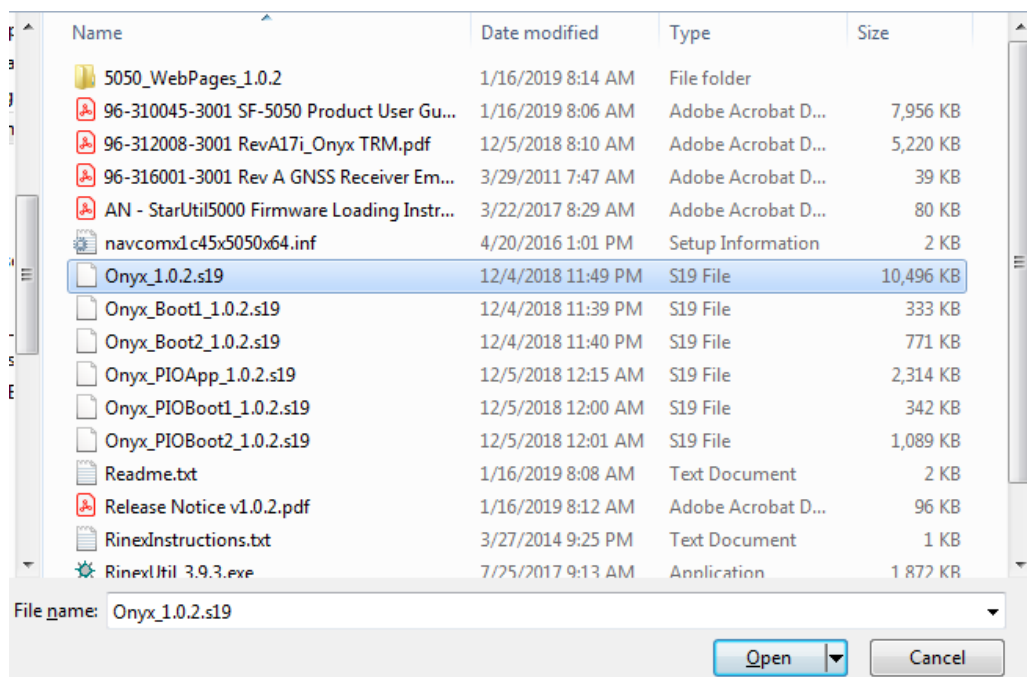

Figure 20: File Upload – Unified File Loader Option
2. Select *Add File* (see Figure 20).
5. Click  (see Figure 20).